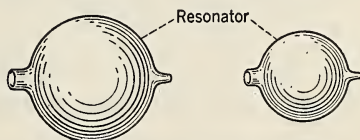

FIG. 425. Helmholtz resonators.
***399. How can we analyze sounds and reproduce them?** A set of resonators for use in analyzing complex sounds was devised by Helmholtz, a German physicist. The series consists of a set of hollow spheres, of such size that each one produces resonance with a note of certain pitch. (See Fig. 425.) By placing the large opening near a body producing complex sounds and holding the small opening to the ear, it is possible to pick out all the overtones that are present, if a series of resonators is used one after another.